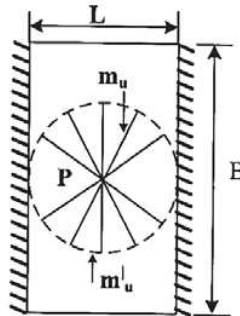

Fig. 3
- Q6)** The yield line patterns for a rectangular slab simply supported at two opposite edges and free at the other two edges are shown in Fig. 3. The slab is isotropically reinforced in the top and the bottom with ultimate positive and negative moments per unit width m_u and m_u' respectively. Determine the ultimate concentrated load P that the slab can carry. [16]